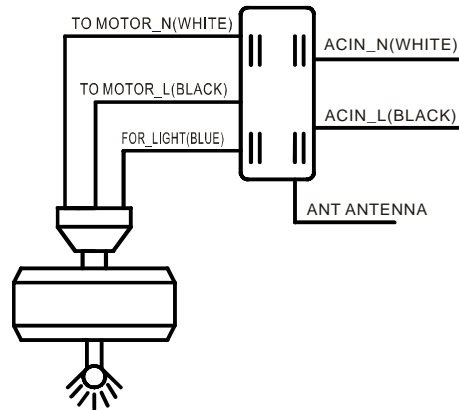

Figure 2.
2. Use the two larger wire nuts supplied to connect the receiver and house wiring; then use the three small wire nuts supplied to connect the receiver and ceiling fan wiring. See Wiring Diagram in Figure 2.